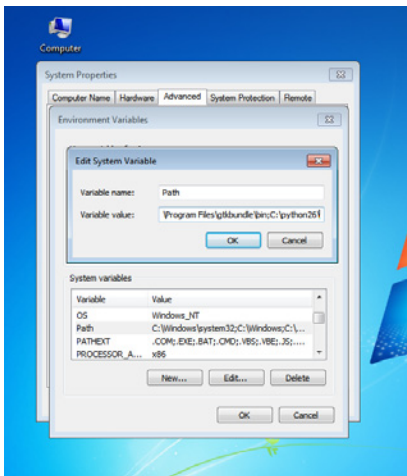

Figure 5-20. Adding PyGTK's *bin* directory to the Path variable
3. Add the *bin* directory to your computer's Path variable as follows (Figure 5-20):